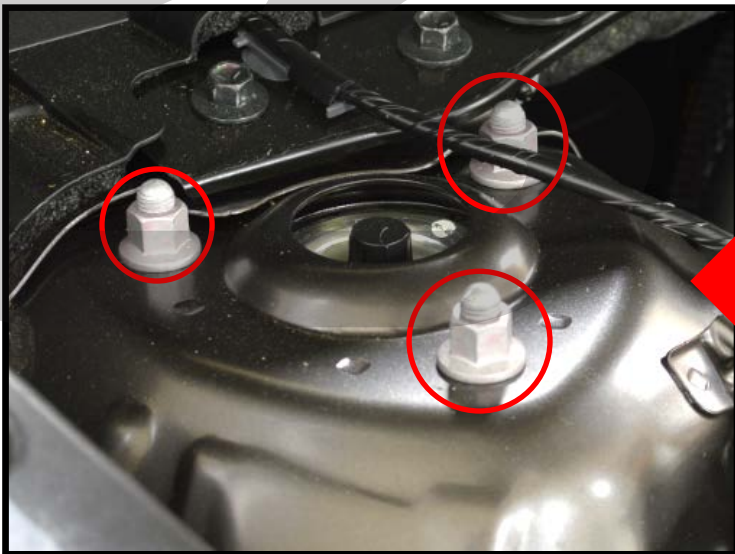

Figure 1f
- f) Loosen, but do not remove, the three 14mm nuts holding the strut top. **Red circles in Figure 1f.**